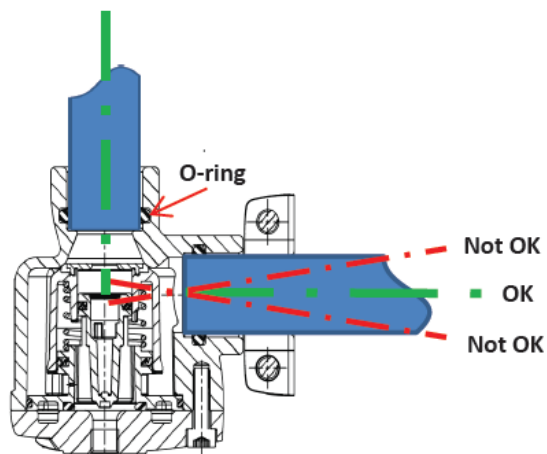

Figure 5-4 Valve Alignment
2. Push the valve on to the inlet and outlet pipes ensuring the alignment is correct. See Fig. 5-4